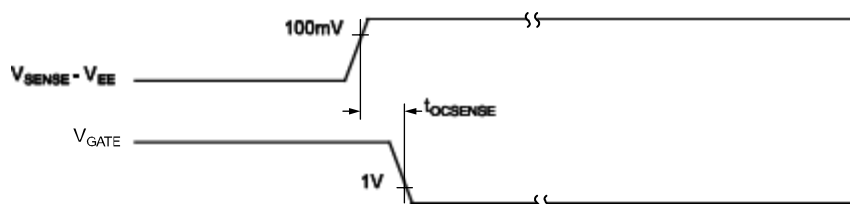

Figure 2. SENSE to GATE Timing Response
| $t_{OCSENSE}$ | Overcurrent Sense to GATE Low Trip Time (8)Figure 2         | $V_{SENSE} - V_{EE} = 100mV$                              |     |     | 3.5 | $\mu s$ |